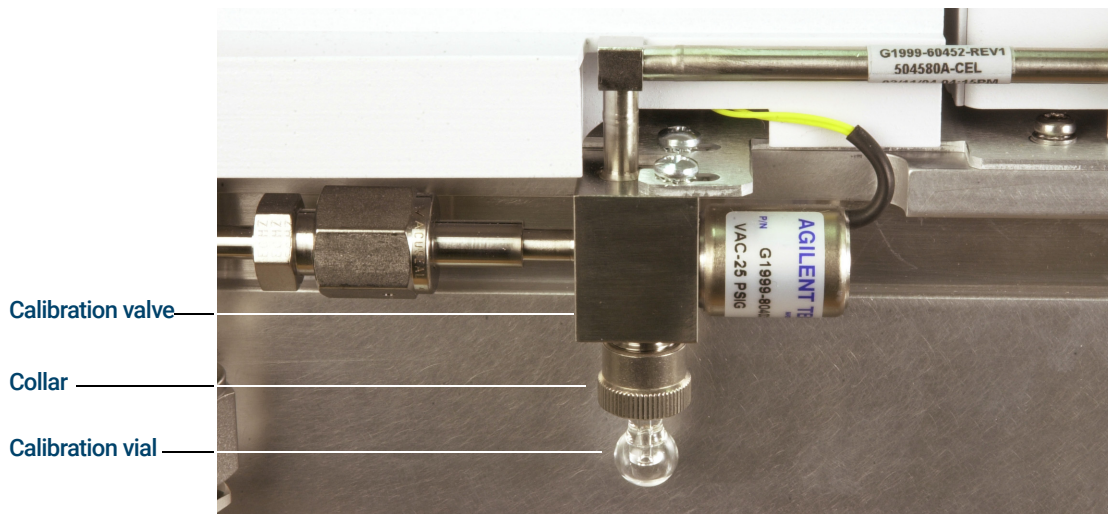

Figure 23. CI calibration valve and vial
- 6 Remove the calibration vial. (See **Figure 23** on page 131.)